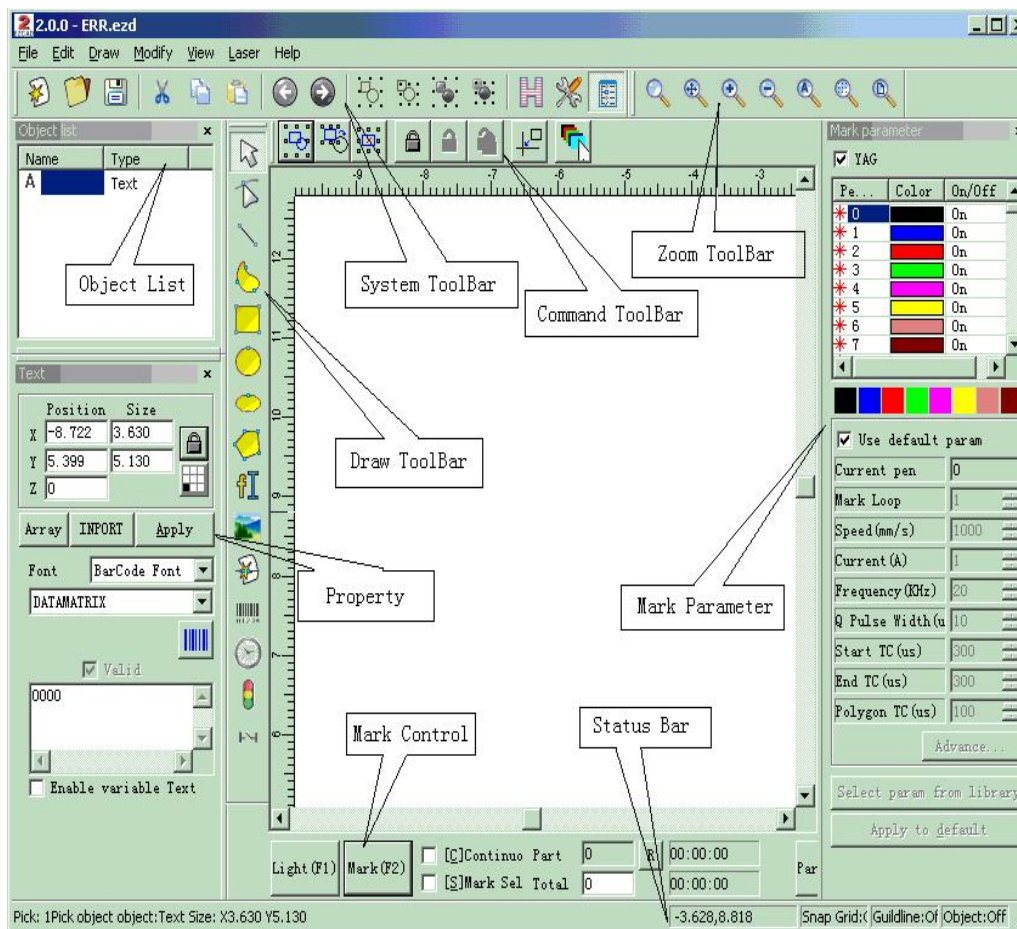

Figure 1-2 Hwcad2 Main Window
- **Main Interface (Figure 1-2)**